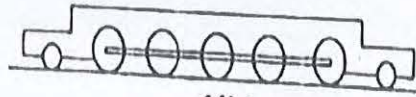

Figure 1
1. a) What are the basic specifications for setting an ideal permanent way? (5)
- b) Discuss the significance of - i) Check rail, ii) Coning of rail, and iii) Tilting of rail. (15)
- c) What should be the equilibrium cant on a B.G. curve of 8 degrees for an average speed of 100 km/h? Also, find out the maximum permissible speed after allowing the maximum cant deficiency. (10)
- d) A locomotive shown in Figure 1 is required to haul a train at 313 kmph. The axle load of the driving wheels of the engine is 600 tonnes. The train is to run on a 5-degree M.G. curved track. Calculate the maximum permissible train load that the engine can pull. If the train climbs a gradient of 1 in 175 and the track has a three-degree curvature, then how much of the speed should be reduced? (15)
- b) An irrigation project located in Kurigram district of Bangladesh divert surface water from Dharala river through a canal for irrigating an area of 3950 hectares, Based on the data and information provided in the **figure 1** and **table 1** below, calculate the following for the period from January to March: 6